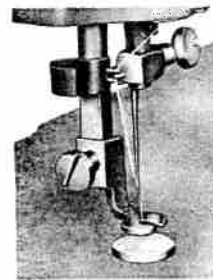

Fig 39
3. Set zigzag stitch width stop at 0. Place the button so that its left hole comes directly under the needle, then gently lower the presser foot. Fig. 39.